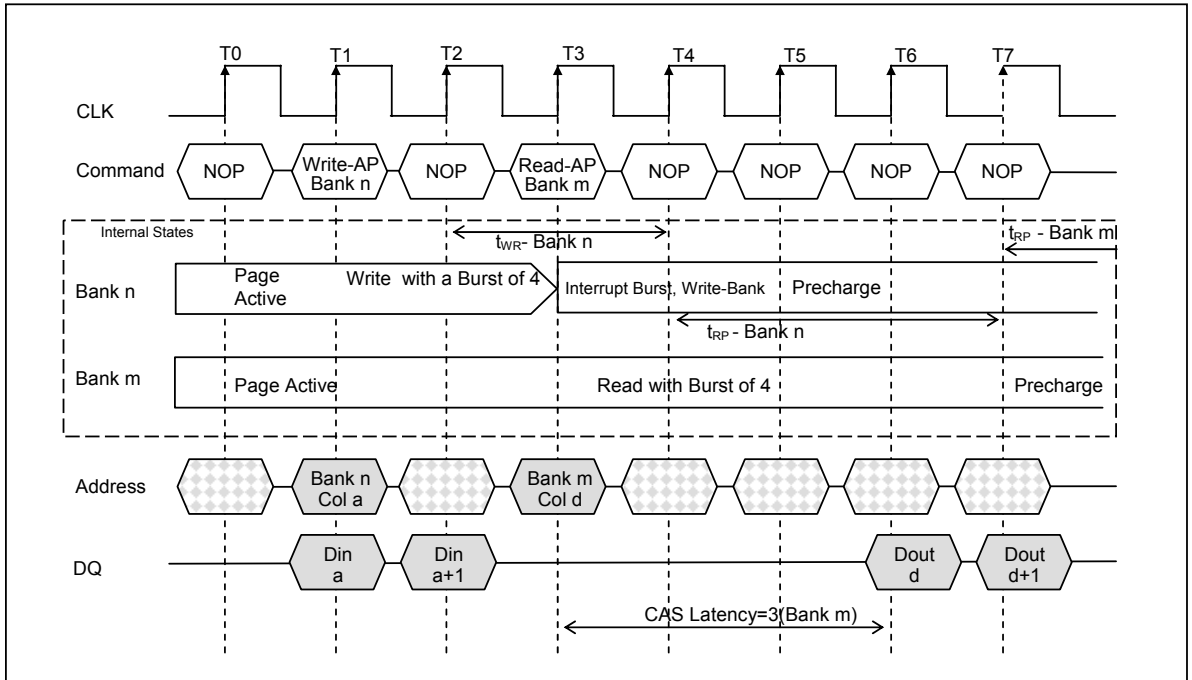

Figure 27. Write with Auto Precharge Interrupted by a Read(CAS Latency =3)
3. Interrupted by a Read (with or without auto precharge): A Read to bank m will interrupt a Write on bank n when registered, with the data-out appearing CAS latency later. The Precharge to bank n will begin after t_{WR} is met, where t_{WR} begins when the Read to bank m is registered. The last valid Write to bank n will be data-in registered one clock prior to the Read to bank m. (Figure 27.)